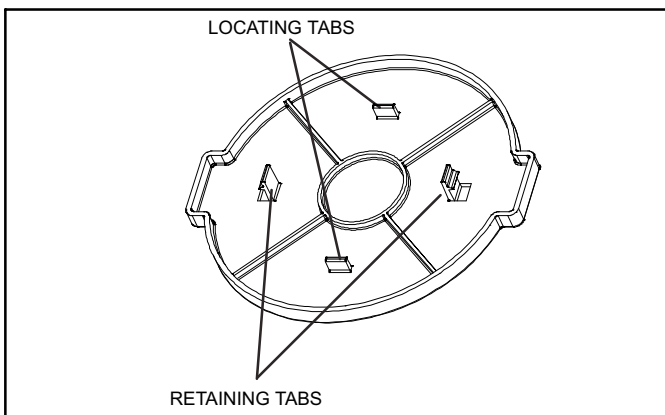

Figure 4. Logo Tab Locations
3. Logo support has two locating tabs and two retaining tabs. Locate retaining tabs holding logo in place (figure 4).